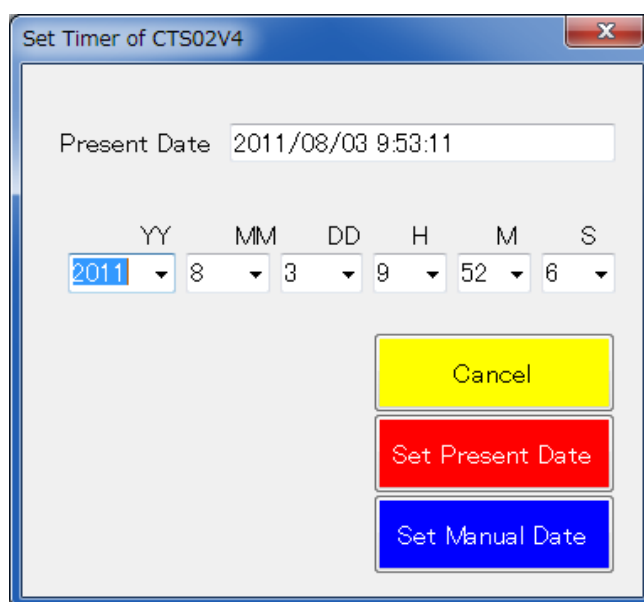

Fig.4-8 Dialog Window for Setting Date and Time
- Click [Timer Set] button ⑦ at the initial screen of CTS-02V4-PC.
- The dialog window for setting date and time is shown in Fig.4-8.